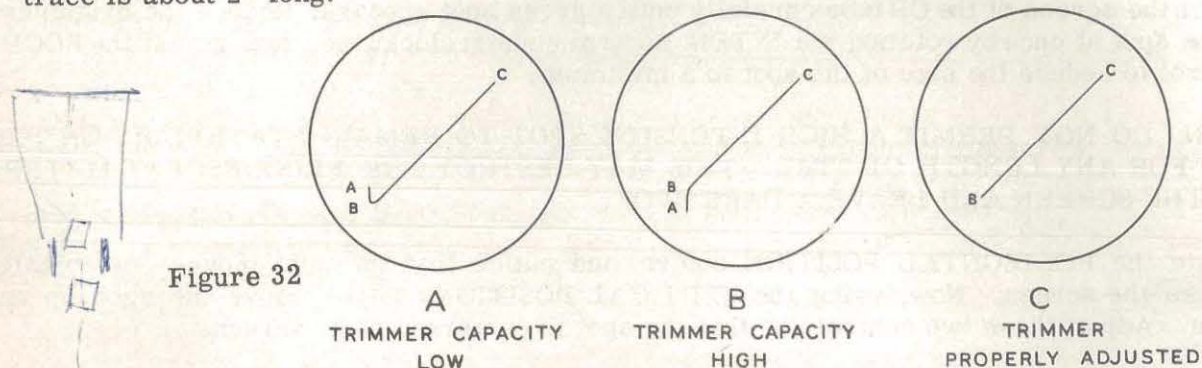

Figure 32
- () Disconnect the jumper from the 1 V. P-P terminal. Turn off the power and connect the free end of the jumper to the excess lead from "HOR. IN" on the rear circuit board. Set the FREQ. SELECTOR to the line between 1000 and 10 K and the FREQ. VERNIER to 0. Now turn on the power. You should get a trace similar to that in Figure 32 A or B. Reduce both gain control settings so that the trace is about 2" long.
5. If you are unable to obtain straight diagonal lines when adjusting the vertical trimmers, please refer to Figure 32 on Page 32 of your O-12 manual. The patterns shown there present a perfectly straight line between points B and C on the traces. Some users have raised questions on this point, stating that they cannot obtain a straight line between B and C. This is perfectly normal. The indication which is significant is that portion of the trace between A and B. The intention of the adjustment is to reduce this portion of the trace to a point at the lower end of the trace, thus indicating neither overshoot or slow rise time on the sharp wave-front of the sawtooth generated by the sweep oscillator. If the remaining portion of the line bellies up or down, a readjustment of the sweep oscillator frequency will probably locate a point where the effect is changed radically. This variation is due to minor phase shift relationships in the amplifier circuits, not to defective or improper compensating.